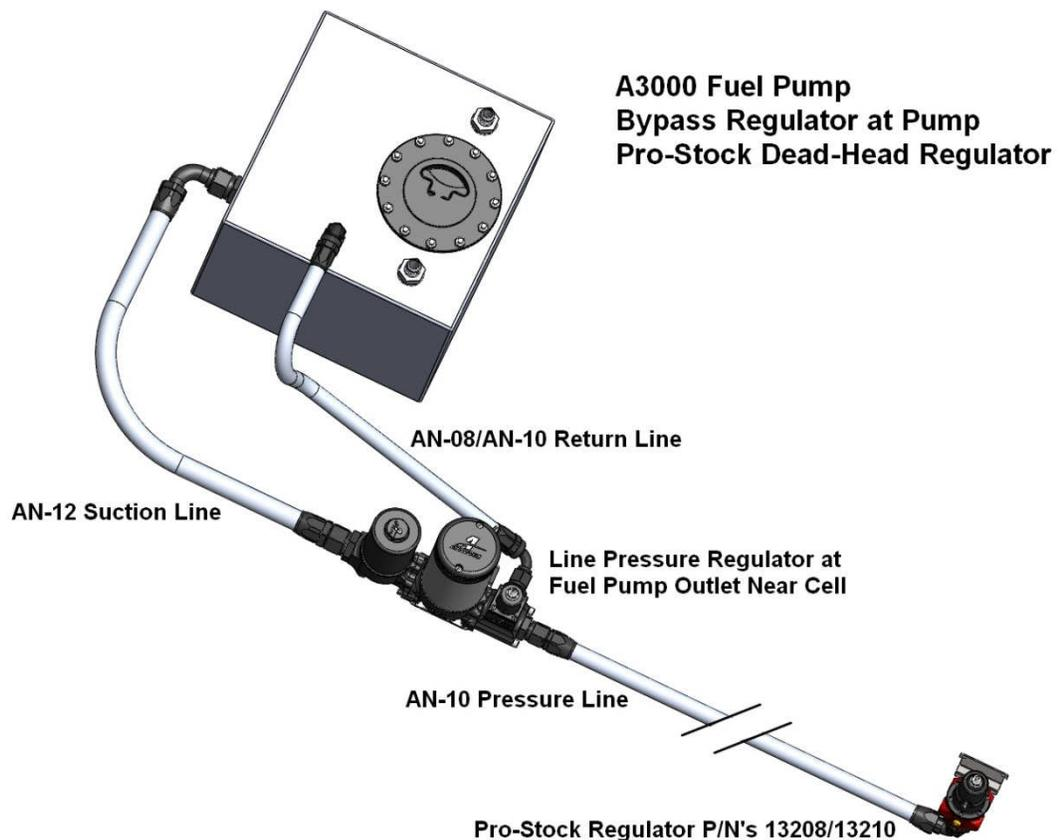

FIGURE 1-1
3. The included High Pressure (HP) Regulator with bypass (return line) must be located on the outlet side of the A3000 fuel pump. If using a “dead head” (non-return) style regulator at the carburetor (Aeromotive P/N 13208 or 13210 for example), the HP Regulator is typically mounted directly to the fuel pump outlet port. The HP Regulator assembly may be clocked relative to the pump in 45-deg increments for optimum clearance of the adjusting stud and bypass line. It may also be rotated 180 degrees (flipping inlet and outlet ports) to orient the bypass port on either side. Once the HP Regulator orientation is established, connect it to the pump using the provided o-ring and socket-head cap screws. **(FIGURE 1-1)**